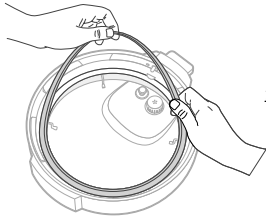

Figure 10.7
1. Remove the sealing ring by pulling the edge of the silicone out of the sealing ring rack. **[Figure 10.7]**